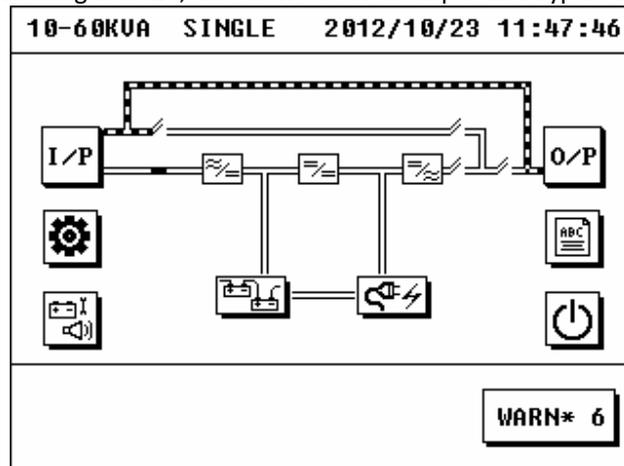

Figure 3.20 Maintenance Bypass Mode
2. Open the cover of maintenance bypass breaker, close the maintenance bypass breaker, cut off the input, output, and battery breakers, and then the UPS enters into maintenance bypass mode. Its energy flow is shown in figure 3.20, and then cut off the input and bypass breakers.